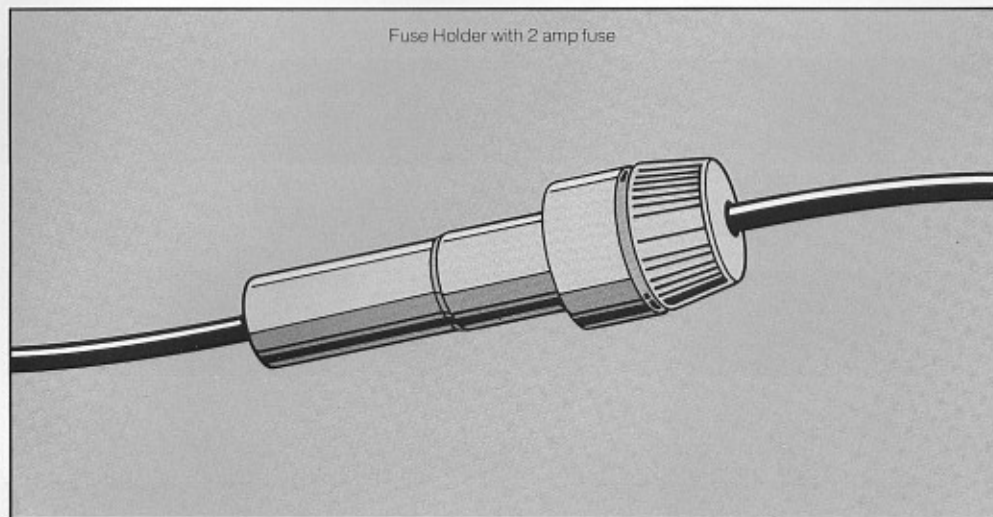

Figure 4. Fusing the speakers. Insert fuse holder between positive speaker wire end and positive speaker terminal.
1. To insert the fuse into the speaker wiring, attach a fuseholder to the + (red) terminal of the speaker. **(Refer to Figure 4.)** Then connect the speaker wire to the